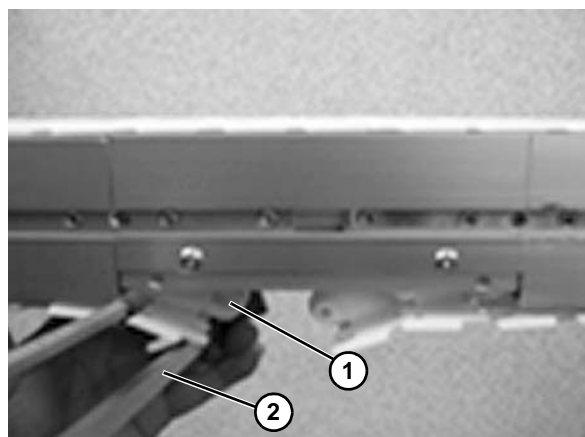

Figure 56
3. Clamp the chain (**Figure 56, item 1**) to the beam profile. Use the FlexMove chain tool (**Figure 56, item 2**) to remove a steel pin from the chain, so that two links are separated.